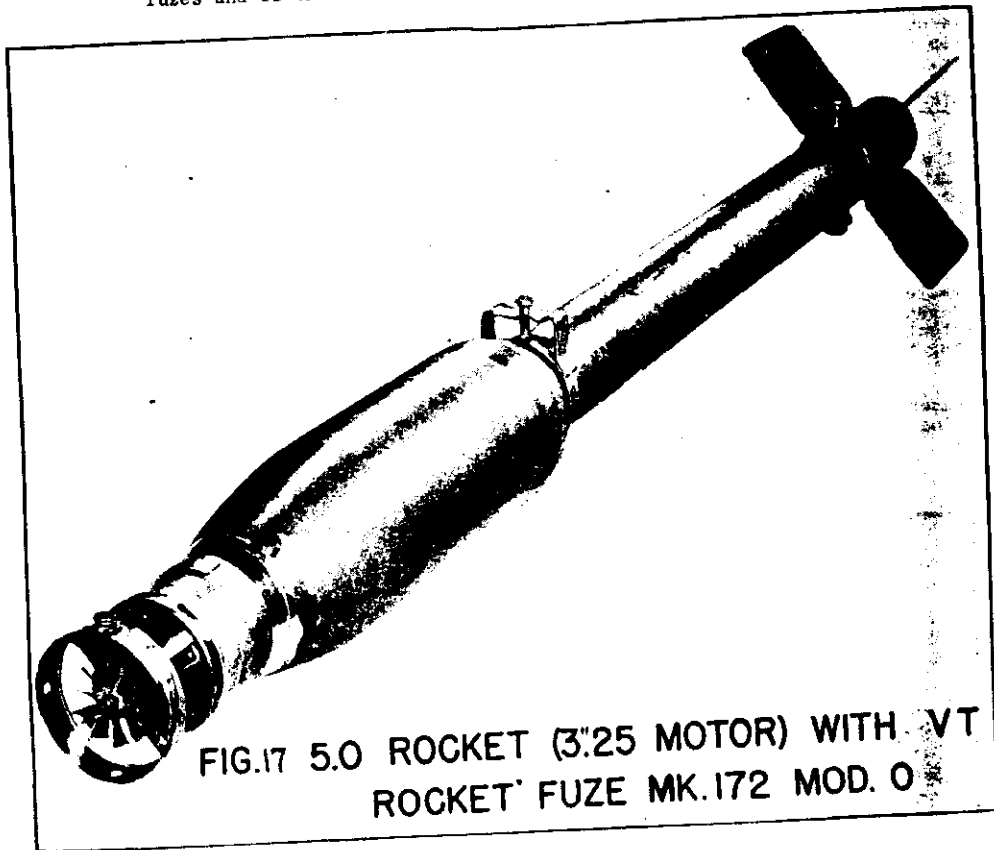

FIG.17 5.0 ROCKET (3.25 MOTOR) WITH VT
2. 5"O Rocket Head Mk 1 Mod 1 (Fig. 17). This head differs from the normal 5"O head (Mk 1 Mod 0) in that the nose is especially cavitized to take the Mk 172 Mod 0 which is larger than the Mk 149 or other rocket nose fuzes and is therefore not interchangeable with them.